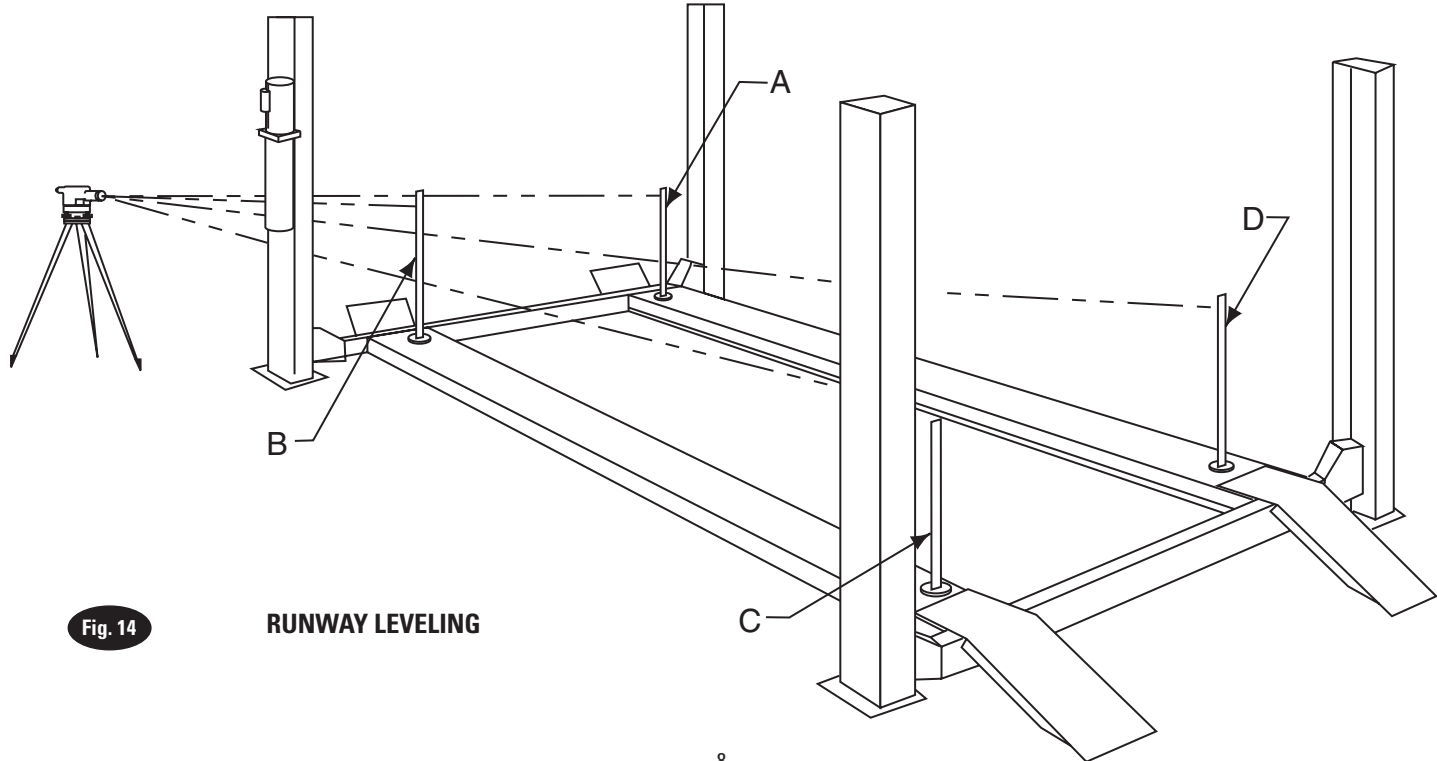

Fig. 14 RUNWAY LEVELING
- C. First place the Level target at the highest corner of the lift. Place it on the runway center line within 6" (152mm) of yoke tube, whichever one is located over highest point. This will be referred to as target "A" position. Beginning with target "A" position, Fig. 14, sight the Level to the target and mark the number or the graduation on the inch scale of the target that aligns to the crosshairs of the Level, Fig. 15.
- D. Next, move the target and place it on the runway at point "B", Fig. 14. Rotate the Level and focus on the target scale. Adjust the column at "B" using shims under base plate, Fig. 13, until the cross-hairs of Level align to reference mark on the target scale. Repeat for points C and D.